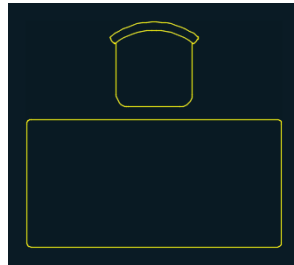

FIGURE 7.10 Chair block inserted 3" from the desk
5. Hold Shift, right-click, and choose From in the context menu. Click the midpoint of the upper desk edge, type $@0,3$ (or $@0,7$ for metric), and press Enter. The Chair block reference appears 3" (or 7 cm) up from the center of the desk (see Figure 7.10).